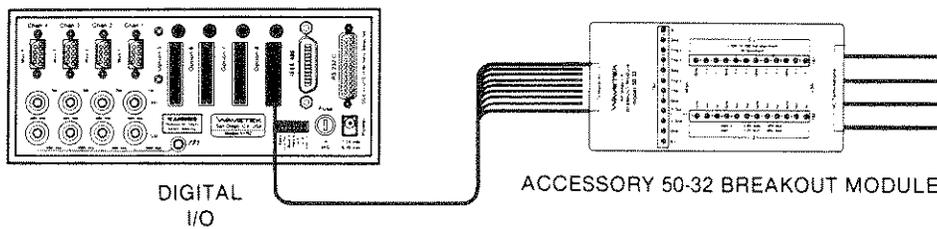

Figure 12-5. Breakout Module/Model 52A Interconnection
**Connecting the Breakout Module to the Model 52** — To connect the breakout module to Model 52 (figure 12-5), connect the breakout module ribbon cable to the Model 52A Digital I/O connector.